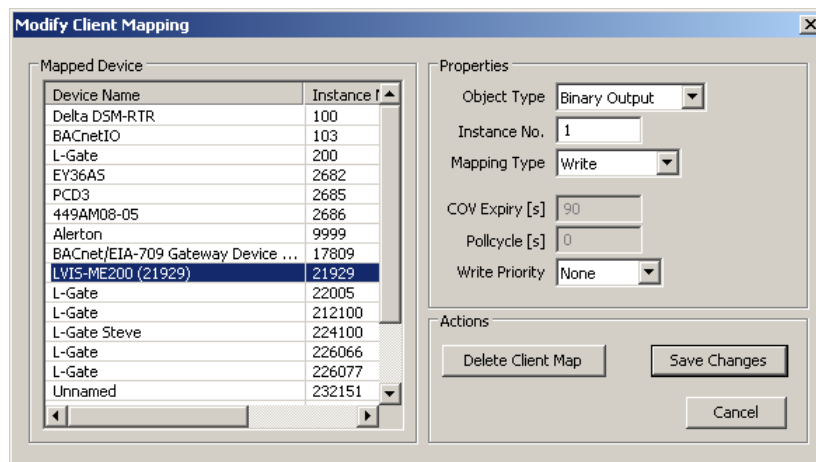

Figure 109: Modify Client Mapping Dialog.
- This opens the **Modify Client Mapping** dialog as shown in Figure 109.